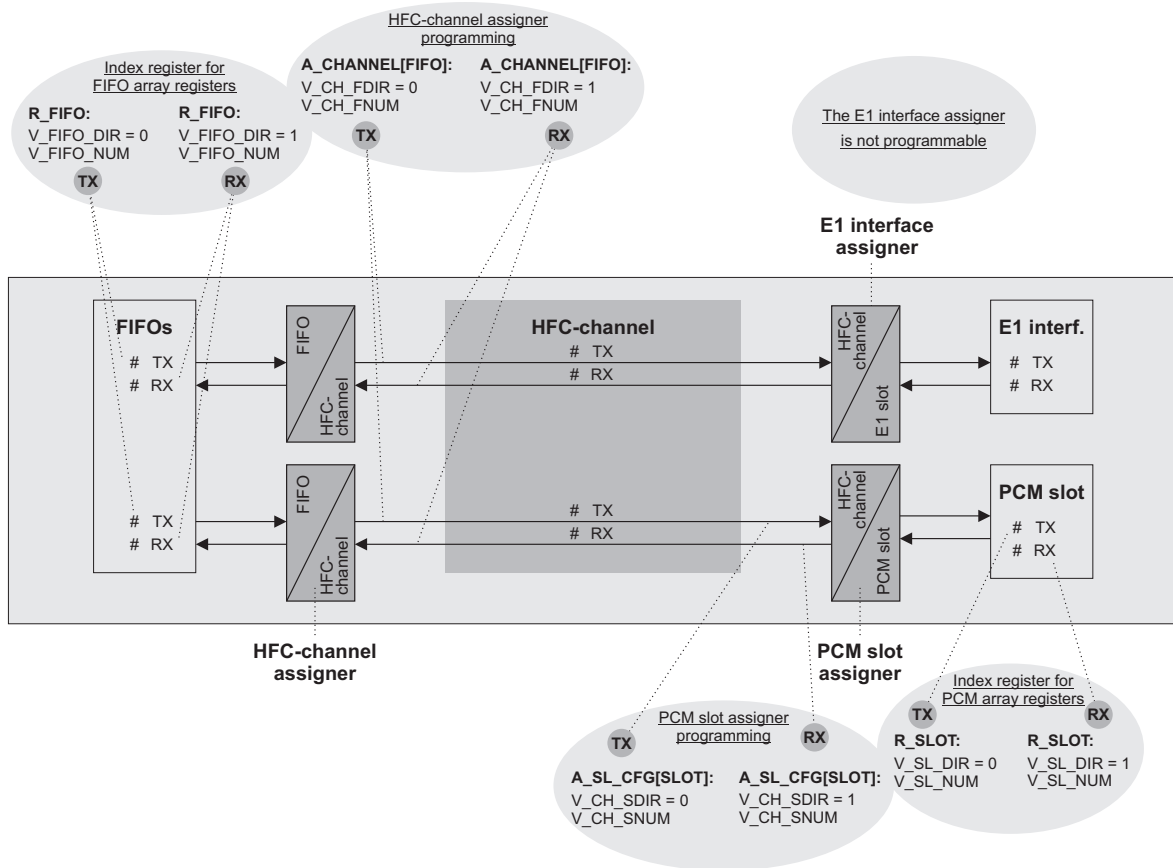

Figure 3.6: Overview of the assigner programming
The three different assigner types of HFC-E1 are shown in Figure 3.6. Assigner programming is always handled with array registers. This can be a FIFO array register or a PCM slot array register.
- The HFC-channel assigner programming depends on the data flow mode which is described in Section 3.4. This section explains in what cases the assigner is programmable and how this can be done. Figure 3.6 gives a hint, that the programming procedure is handled with the array register A_CHANNEL[FIFO]. Please see section 3.4 for details and restrictions.